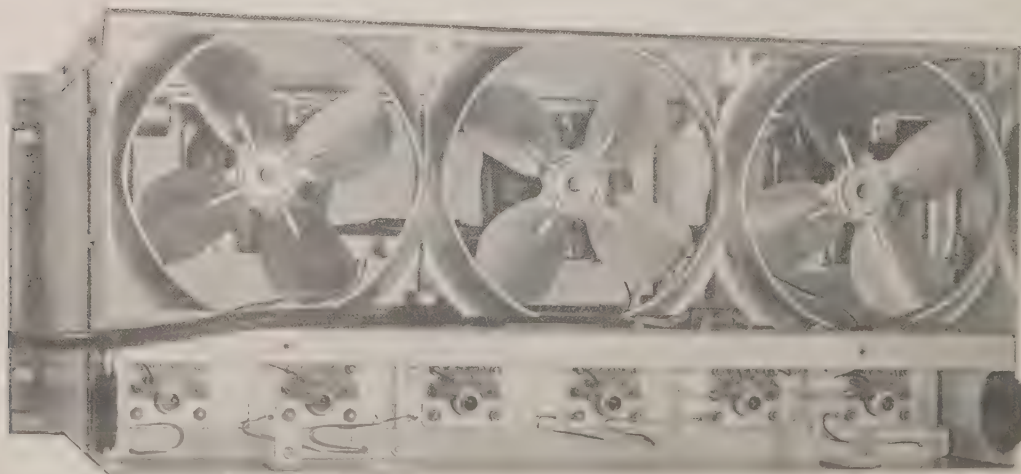

Figure 2-5. Rear of Model 190 Module, Cover Plates Removed
- b. Loosen the screws directly under the two outside fan vents. Remove the two screws immediately beneath. Remove the plate covering the bottom rear to expose the six amplifier connectors (see Figure 2-5).